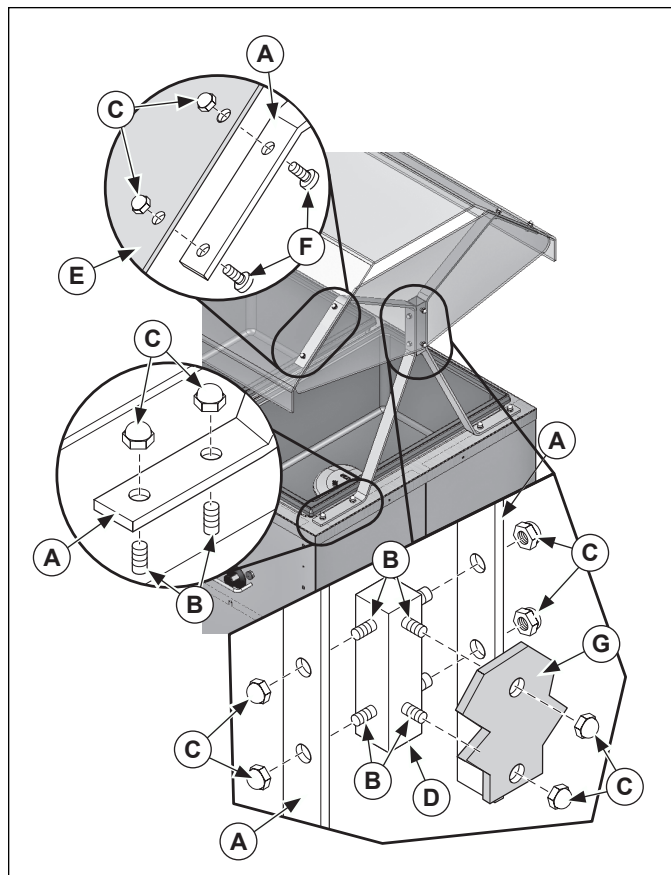

Figure 1. Breath Guard Installation
1. Install the breath guard uprights (A) to the studs (B) securing with cap nuts (C) as shown. See Figure 1. Repeat for all four uprights.